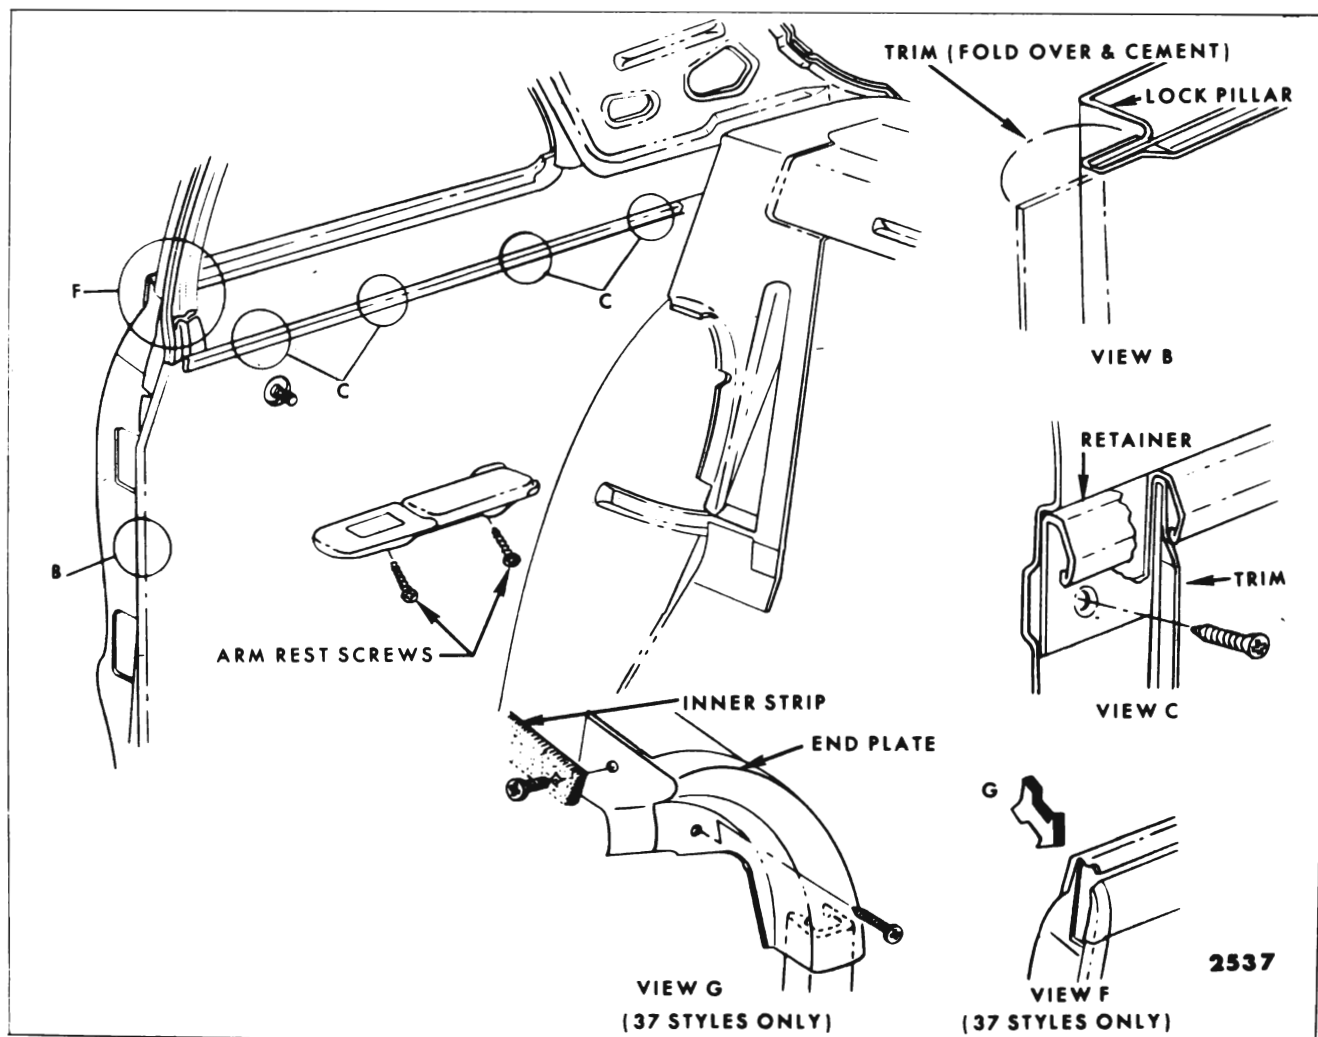

Fig. 14-19—Rear Quarter Trim Assembly (Insert Type)
- A. Applied arm rests which are retained by two screws inserted through the arm rest base into the quarter inner panel (Fig. 14-19).
7. On all styles, carefully detach front cemented edge of trim material from body lock pillar pinchweld flange. Carefully bend or bow trim inboard to sufficiently disengage upper edge of trim from under finishing molding retainer (Fig. 14-19, View “C”). In addition, “X” Body style trim must be disengaged along bottom from lower finishing molding retainer.
The finishing molding retainer (Fig. 14-19, View "C") is retained by screws and can be removed at this point, where required.
9. To install, reverse removal procedure. Prior to installation of pinchweld finishing strip, recement forward edge of trim to pinchweld flange (Fig. 14-19, View "B").